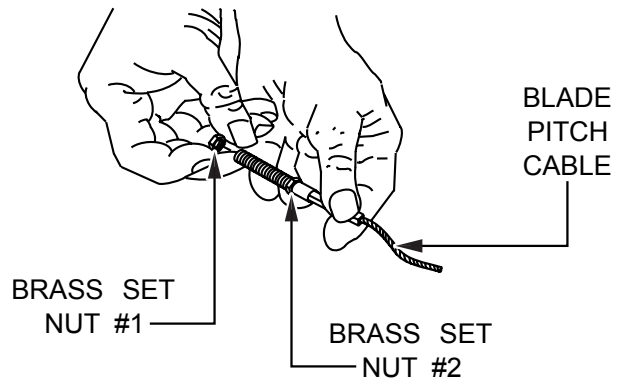

**Figure 5. Adjusting Cable Blade Pitch (Quick-Pitch™ Handle)**
2. For trowels equipped with a **Quick Pitch™ T-handle** (QXHC), simply squeeze the trigger lock and push the **T-handle** towards the engine to release tension on the blade pitch cable. See Figure 5.